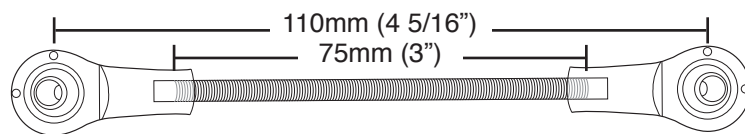

fig. 2
- Trim the threaded rod to 75mm (3"). The linkage will be 110mm (4 5/16") from eye to eye. The linkage must have a minimum of five threads of engagement on both ends (Fig. 2).